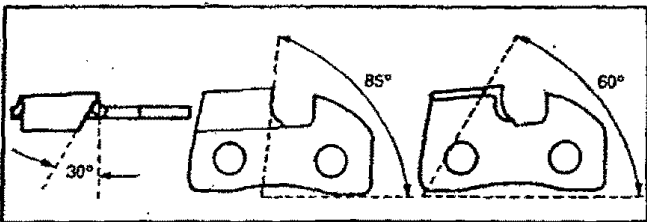

Figure 33
- f.) File P100S and P101S chain to meet specifications shown in Figure 33.